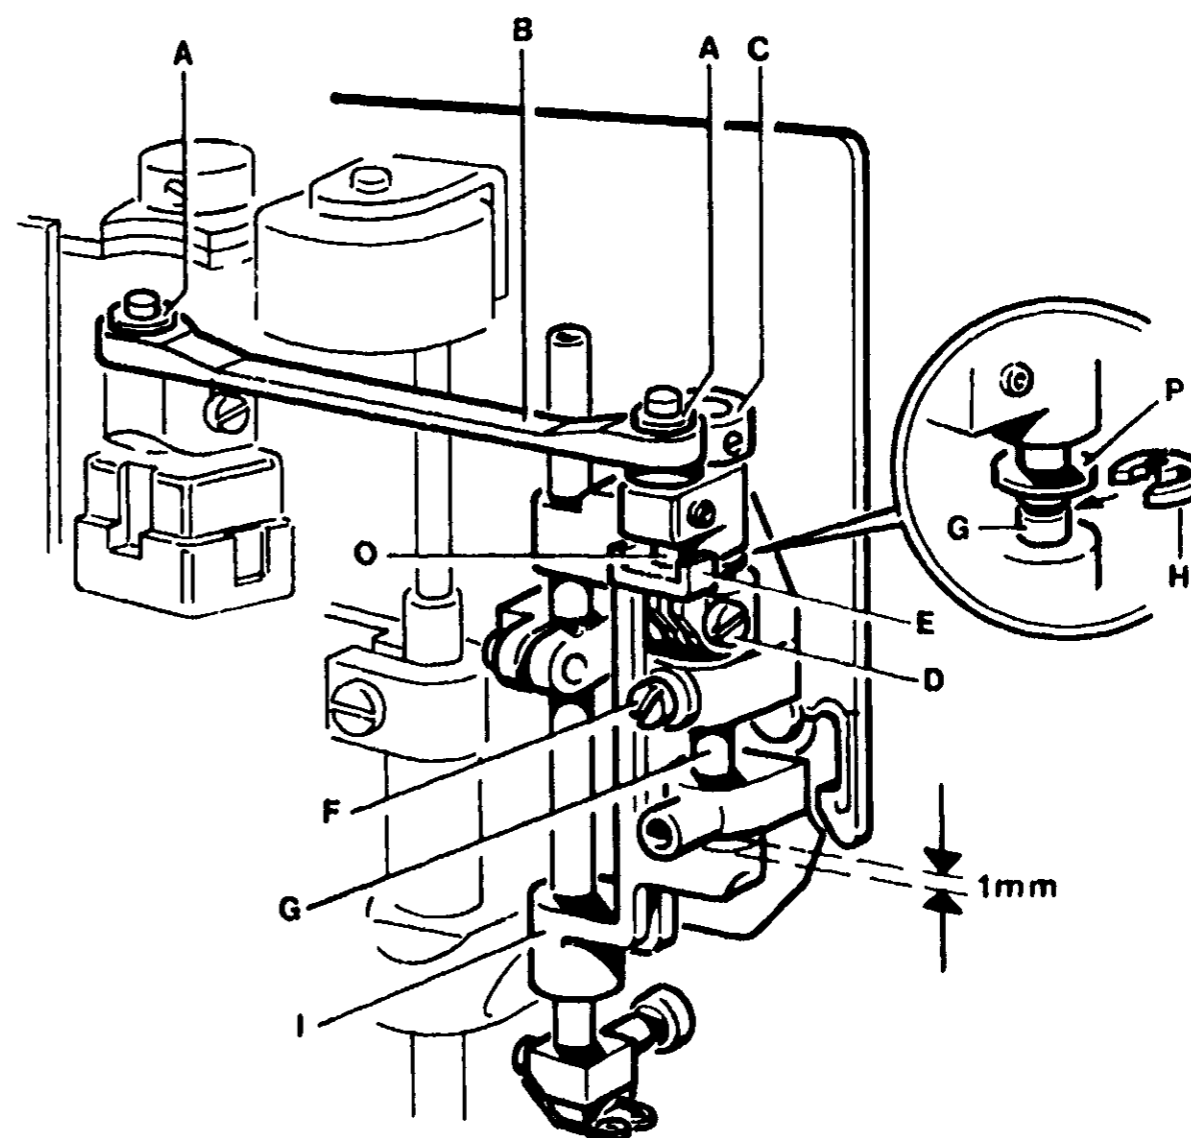
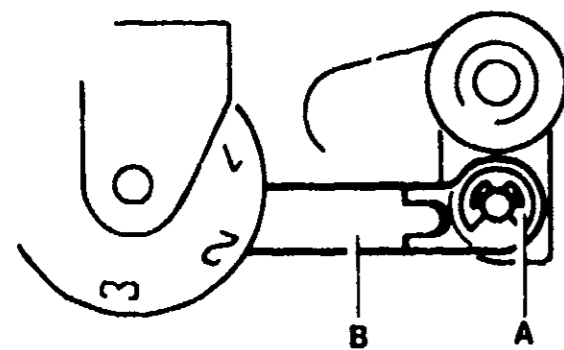
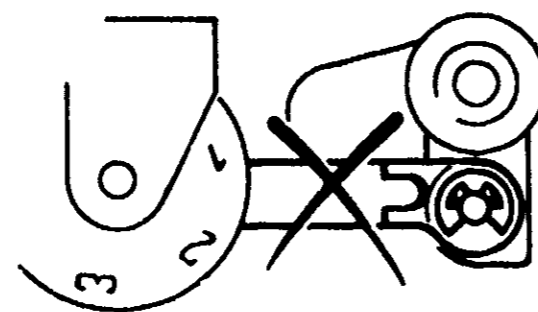

FIGURE 31
FIGURE 33a
FIGURE 33b
- Remove "E" clips (A) (Figure 31) and remove connecting rod (B) off of pivots of actuator and needle bar support
- Loosen screws holding ring (C). Remove ring
- Loosen screw (D) of limiting device (E)
- Loosen screw (F) lower pivot (G), remove "E" clip (H) and slip out pivot (G)
- Remove needle bar support (I) from machine
- Insert pivot (G) through the bottom of the needle bar support. Before pivot reaches the highest portion of needle bar support, locate the limiting device (E). Be sure that pivot (O) is between the two stops of the limiting device (E). Place elastic washer (P) on pivot (G).
- Reinstall 'E' clip (H) (Figure 31) into slot in pivot (G). Be sure that elastic washer (P) is above 'E' clip (H). While maintaining an upward pressure on the bottom of pivot (G), install the retainer ring (C).
- Clearance between bottom of needle bar support and mainframe section should be .040 (1 mm) inch (Figure 31). Check clearance with feeler gauge, then tighten screw (F).
- Manually move needle bar support back and forth to be sure it operates smoothly and does not have any vertical play. If vertical play exists, loosen screws holding retainer ring (C), adjust ring level and tighten screws securely.
- Install connecting rod (B) as illustrated in Figure 33a. Figure 33b shows connecting rod incorrectly installed. Reinstall the 'E' clips (A) (Figure 31).